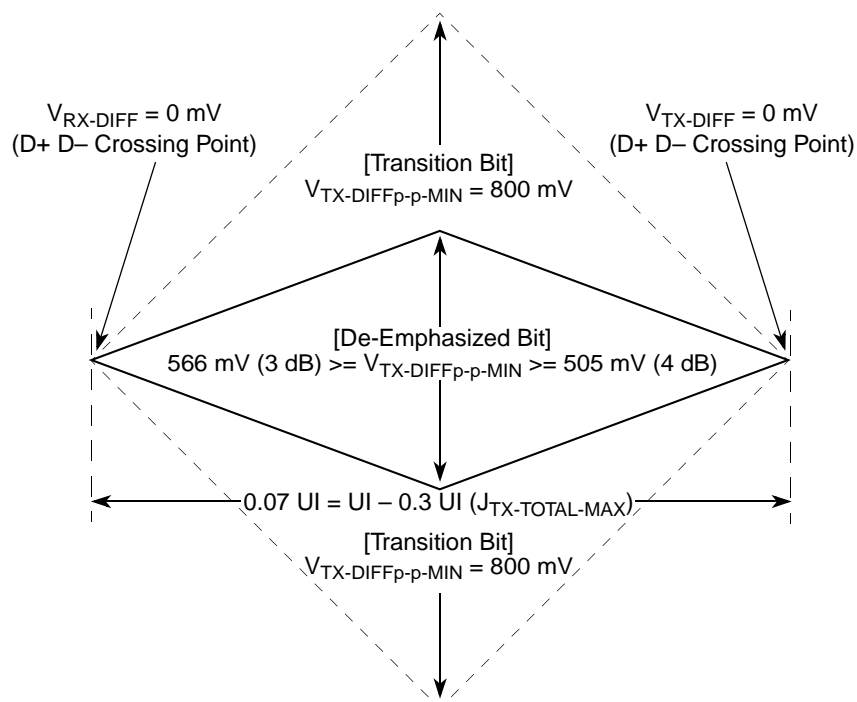
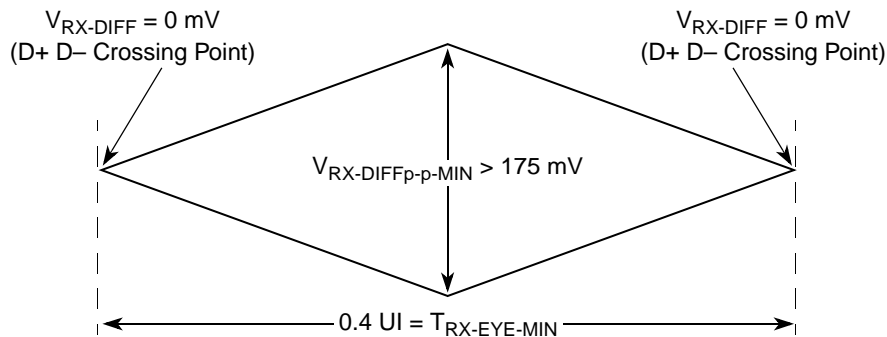
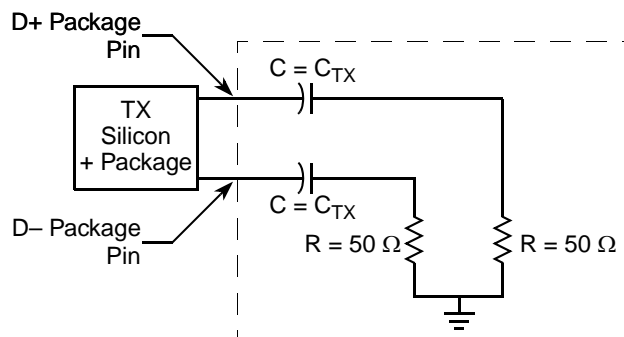

Figure 48. Minimum Transmitter Timing and Voltage Output Compliance Specifications
Figure 49. Minimum Receiver Eye Timing and Voltage Compliance Specification
Figure 50. Compliance Test/Measurement Load
2. Specified at the measurement point into a timing and voltage compliance test load as shown in Figure 50 and measured over any 250 consecutive TX UIs. (Also refer to the transmitter compliance eye diagram shown in Figure 48.)
4. The transmitter input impedance shall result in a differential return loss greater than or equal to 12 dB and a common mode return loss greater than or equal to 6 dB over a frequency range of 50 MHz to 1.25 GHz. This input impedance requirement applies to all valid input levels. The reference impedance for return loss measurements is 50 Ω to ground for both the D+ and D– line (that is, as measured by a vector network analyzer with 50- Ω probes—see Figure 50). Note that the series capacitors C_{TX} is optional for the return loss measurement.
5. Measured between 20%–80% at transmitter package pins into a test load as shown in Figure 50 for both $V_{\text{TX-D+}}$ and $V_{\text{TX-D-}}$.
The TX eye diagram in Figure 48 is specified using the passive compliance/test measurement load (see Figure 50) in place of any real PCI Express interconnect +RX component.
2. Specified at the measurement point and measured over any 250 consecutive UIs. The test load in Figure 50 should be used as the RX device when taking measurements (also refer to the receiver compliance eye diagram shown in Figure 49). If the clocks to the RX and TX are not derived from the same reference clock, the TX UI recovered from 3500 consecutive UI must be used as a reference for the eye diagram.
4. The receiver input impedance shall result in a differential return loss greater than or equal to 15 dB with the D+ line biased to 300 mV and the D– line biased to –300 mV and a common mode return loss greater than or equal to 6 dB (no bias required) over a frequency range of 50 MHz to 1.25 GHz. This input impedance requirement applies to all valid input levels. The reference impedance for return loss measurements for is 50 Ω to ground for both the D+ and D– line (that is, as measured by a vector network analyzer with 50- Ω probes—see Figure 50). Note: that the series capacitors CTX is optional for the return loss measurement.
The RX eye diagram in Figure 49 is specified using the passive compliance/test measurement load (see Figure 50) in place of any real PCI Express RX component.
Note: In general, the minimum receiver eye diagram measured with the compliance/test measurement load (see Figure 50) is larger than the minimum receiver eye diagram measured over a range of systems at the input receiver of any real PCI Express component. The degraded eye diagram at the input receiver is due to traces internal to the package as well as silicon parasitic characteristics which cause the real PCI Express component to vary in impedance from the compliance/test measurement load. The input receiver eye diagram is implementation specific and is not specified. RX component designer should provide additional margin to adequately compensate for the degraded minimum receiver eye diagram (shown in Figure 49) expected at the input receiver based on some adequate combination of system simulations and the return loss measured looking into the RX package and silicon. The RX eye diagram must be aligned in time using the jitter median to locate the center of the eye diagram.
The reference impedance for return loss measurements is 50. to ground for both the D+ and D- line (that is, as measured by a vector network analyzer with 50-Ω probes—see Figure 50). Note that the series capacitors, CTX, are optional for the return loss measurement.
The AC timing and voltage parameters must be verified at the measurement point, as specified within 0.2 inches of the package pins, into a test/measurement load shown in Figure 50.